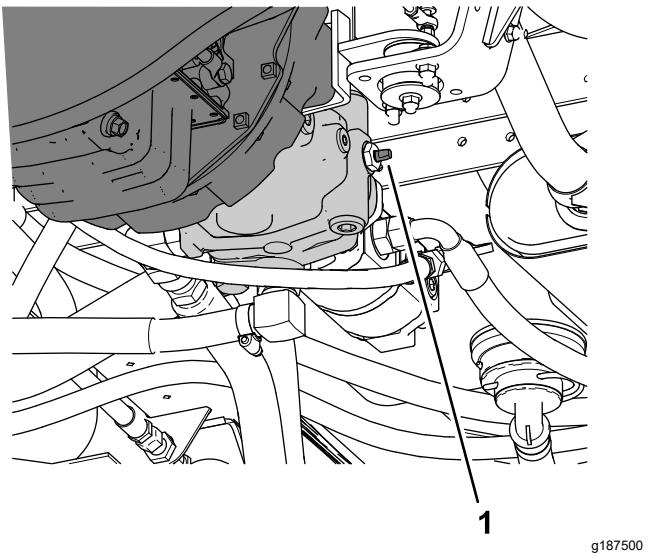

Figure 94
3. Rotate the tow valve (Figure 94) 90° in either direction to open the tow valve.